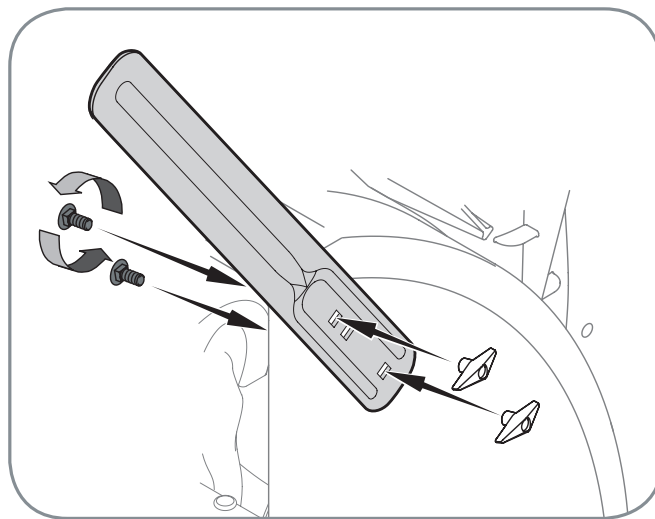

Fig. 3-13
- Reposition drift cutters so they face forward as shown in Fig. 3-13. Secure with hardware previously removed, wingnuts should be fastened on the **outside** of the housing as shown.